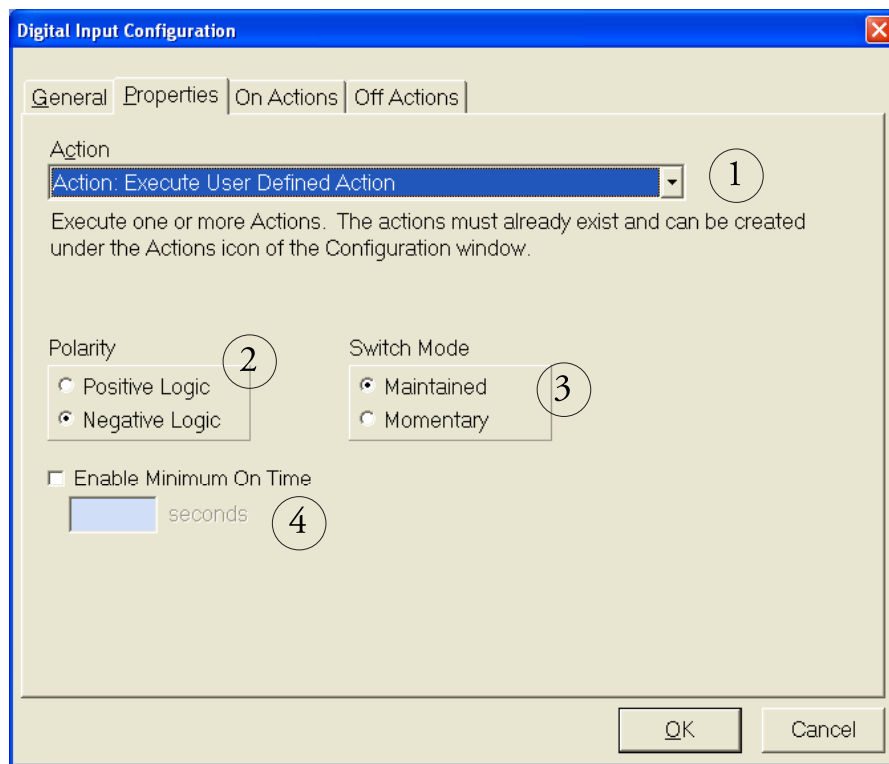

Figure 26. Digital Input Configuration panel.
The Digital Input Configuration panel has two tabs, General and Properties. Tabs for On Actions, Off Actions, and Set Digital Output will appear, depending on what you select in the Action section. Also, the Switch Mode Section (*Part 3 in Figure 26*) will appear depending on what you select in the Action section.
1. From the dropdown menu under Action, select the previously-defined action (*Part 1 in Figure 26*).
2. Polarity (*Part 2 in Figure 26*).
3. Switch Mode (*Part 3 in Figure 26*).
4. Determine how long your signal needs to be sustained before the signal is considered valid (Minimum On Time) (*Part 4 in Figure 26*).